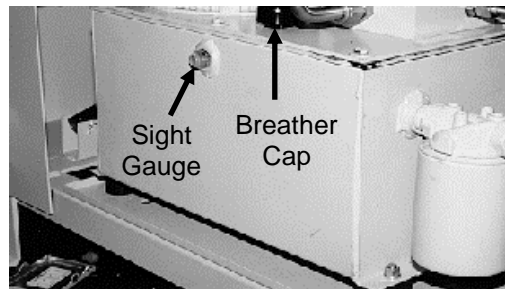

Figure 30
3. Unscrew and remove the breather cap from the top of the tank (Figure 30).
6. Using the transfer pump, fill the tank with 5 gallons of the recommended fluid (See Section 10.1 above). Make sure the level is just above the sight gauge shown in Figure 30.